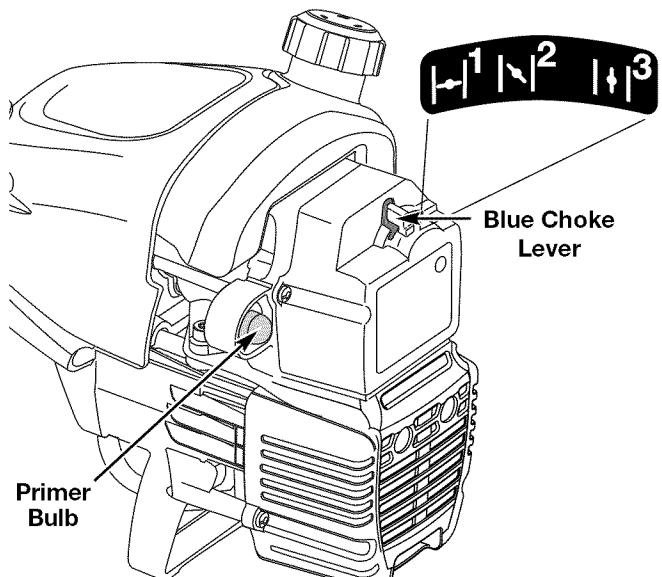

Fig. 20
2. Fully press and release the primer bulb 10 times, slowly. Some amount of fuel should be visible in the primer bulb and fuel lines (Fig. 20). If you can't see fuel in the bulb, press and release the bulb as many times as it takes before you can see fuel in it.
3. Place the blue choke lever in **Position 1** (Fig. 20).
5. Place the blue choke lever in **Position 2** (Fig. 20).
8. Once the engine is warmed up, place the blue choke lever in **Position 3** (Fig. 20). The unit is ready for use.
IF... the engine hesitates, return the blue choke lever to Position 2 (Fig. 20) and continue warm-up.